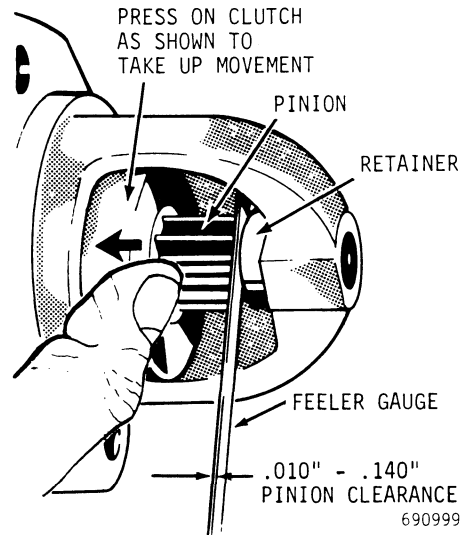

Figure 19 - Measuring and Adjusting Pinion Clearance
5. Measure the distance between pinion and pinion stop, Figure 19.